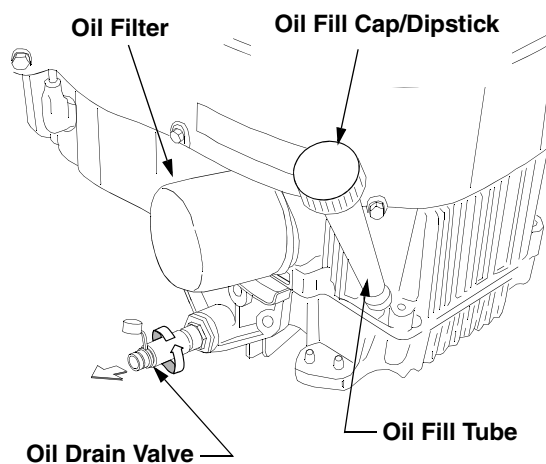

Figure 22
- Pop open the protective cap on the end of the oil drain valve to expose the oil drain port. See Figure 22.
- Push the oil drain valve in slightly, then rotate counterclockwise and pull outward to begin draining oil. See Figure 22.